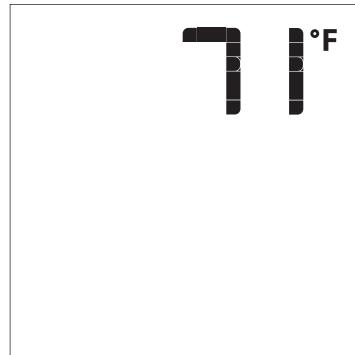

Figure 79
4. With the system ON , press the ON/OFF Key on the Transmitter. The Transmitter LCD display will show the room temperature. **See Figure 79.** At the same time the Receiver will turn off the appliance.